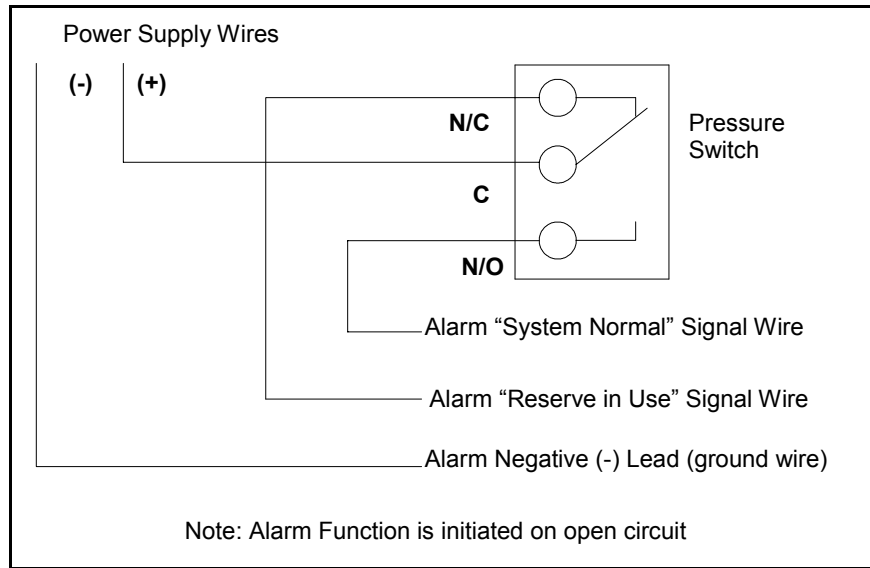

FIGURE 9 115 VAC Power
1. The power supply will be determined by the remote alarm operation voltage. If the remote alarm is designed for 115 VAC service then the existing 115 VAC power source can be utilized directly. (Figure 9) If the remote alarm is designed for other than the existing AC power source then it is necessary to install a transformer in the system to provide the proper operating voltage. (Figure 9)
2. Connect the positive lead (+) from the power supply to the common (C) terminal on the pressure switch.